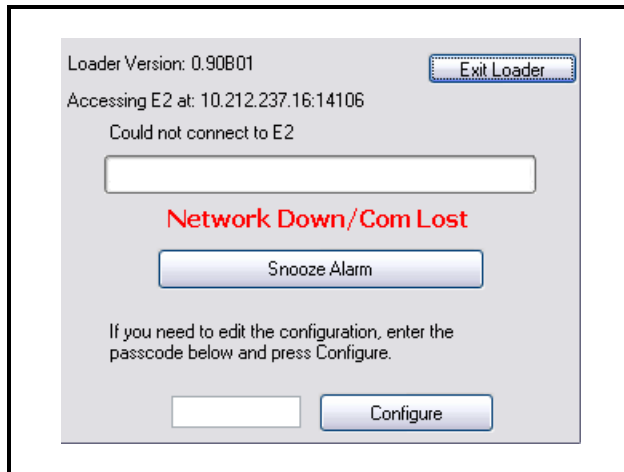

Figure 3-4 - First Boot Loader/Startup Screen
1. Log on by entering the passcode (default code is **400**) into the blank field on the first boot loader screen (*Figure 3-4*) and touch **Configure**. (Touching the inside of this field